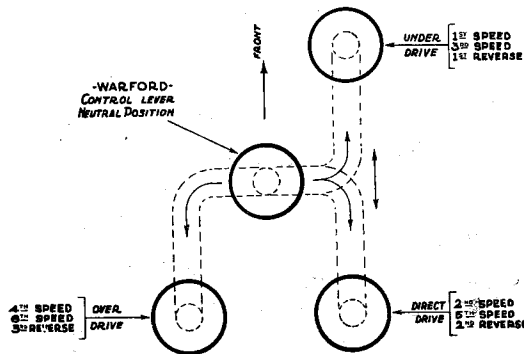

Fig. 9
A careful study of Fig. 9 and the table of gear ratios should be made in advance of operation, in order that the most efficient use may be made of the advantages of the Warford transmission. Fig. 9 shows the available positions of the
1. Assuming that the Warford Control Lever is in the Neutral position and the engine has been started, slightly depress the Ford high-low speed pedal and at the same time push on the Ford brake pedal. This will slow down the Ford transmission when the Control Lever can be moved to any desired speed position (See Fig. 9). Applying the Ford foot brake for shifting gear ONLY APPLIES WHEN THE TRUCK IS STANDING STILL.
4. The truck can be operated a large majority of the time on Third, Fifth and Sixth speeds when the Ford transmission bands are not being used. The best procedure in order to take advantage of this condition, is to first place the Warford Control Lever in the Underdrive position (to the right and forward—See Fig. 9), then use the Ford “low-speed” pedal to get the truck moving sufficiently to let this pedal back into Ford “high”. Then when well under way, slightly depress the “high-speed” clutch pedal and pull the Warford Control Lever straight back into Direct Drive position and then let the Ford “high-speed” pedal back as described in Paragraph 3. Then, if conditions permit more speed and the Ford engine will handle additional speed, the clutch pedal can be slightly depressed and the Warford Control Lever can be shifted into the Overdrive position—to the left and back—See Fig. 9) letting the clutch pedal back after the shift is made. This sequence of operations gives a very desirable and well graduated succession of speeds and the Ford low speed band is only used once.